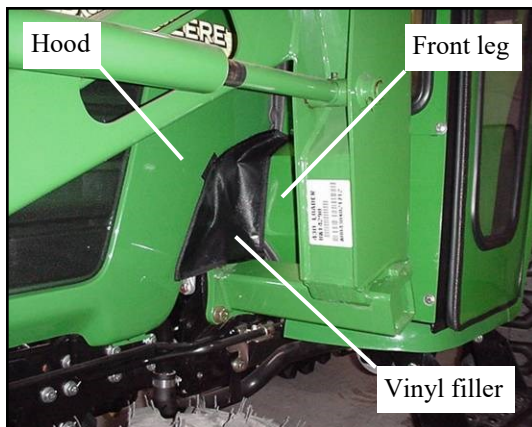

Fig. 12.3
- 12.3 Install **10 series** vinyl fillers as shown in figure 12.3 for 42/43/4410 series tractors by applying self adhesive hook velcro, as needed, along the hood and front legs. (NOTE: adhesive backed velcro should be applied to a clean, dry surface at room temperature.) (NOTE: left, driver's side shown, repeat for opposite side.)